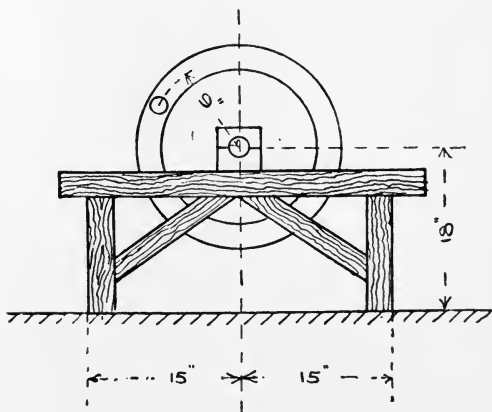

Fig. 2.
3. The wheel shewn in Fig. 2 is out of balance due to a hole bored in the rim which has removed $\frac{1}{2}$ lb. of metal. The total weight of the wheel and the framework on which it rests is 200 lbs. Calculate how many revolutions per minute the wheel can make without causing the frame to rock on its supports.